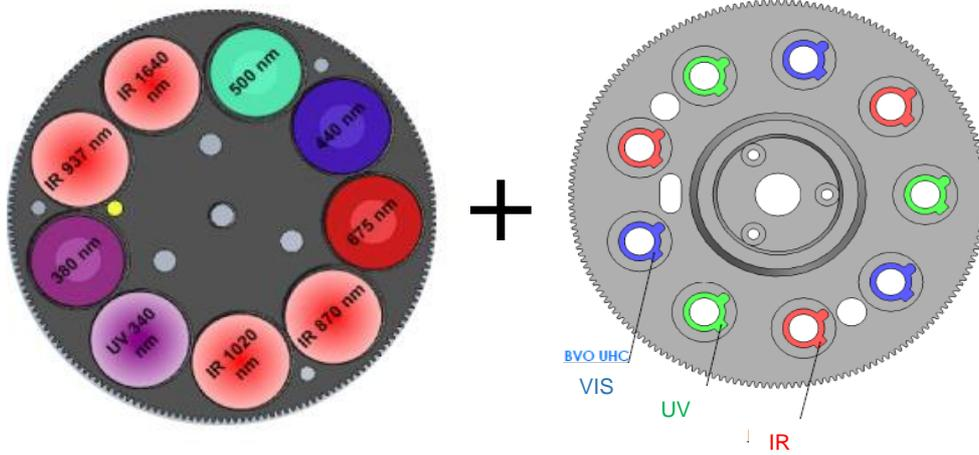

Figure 3 : POLARIZED type (CE318-TP9)
- **BRDF / CE318-TU9:** it uses 380, 440, 550, 675, 740, 870, 937, 1020 and 1640 nm filters (Fig.3).